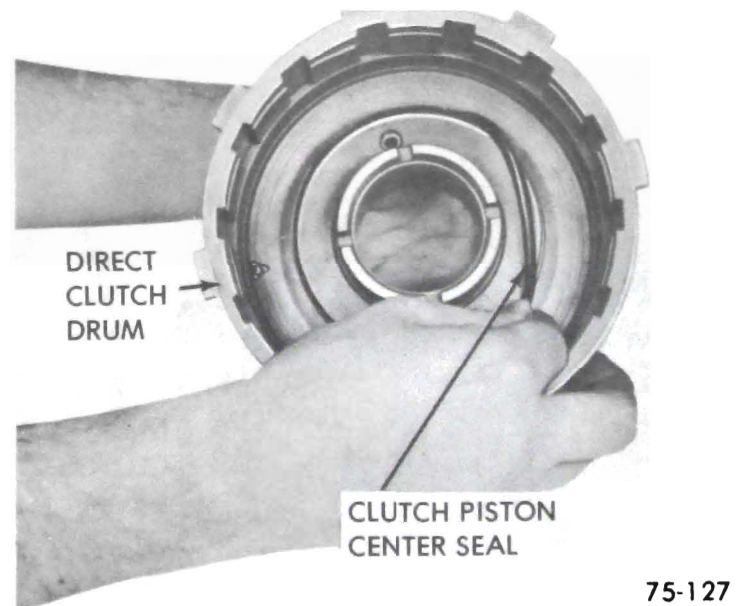

Figure 75-169
12. Remove direct clutch piston center seal. See Figure 75-169.
2. Install direct clutch piston center seal. See Figure 75-169.